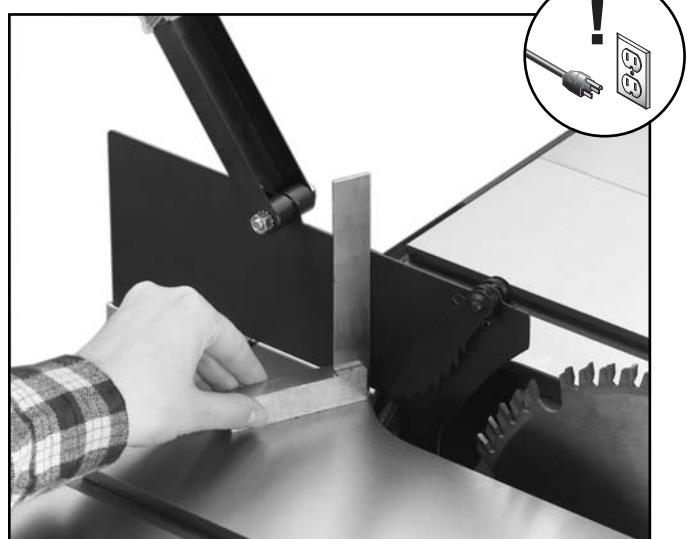

Figure 18. Blade splitter square to table.
3. Set a machinist's square against the face of the blade splitter. Slightly rotate the rear bracket to adjust the face of the blade splitter perpendicular to the table top as shown in **Figure 18**.